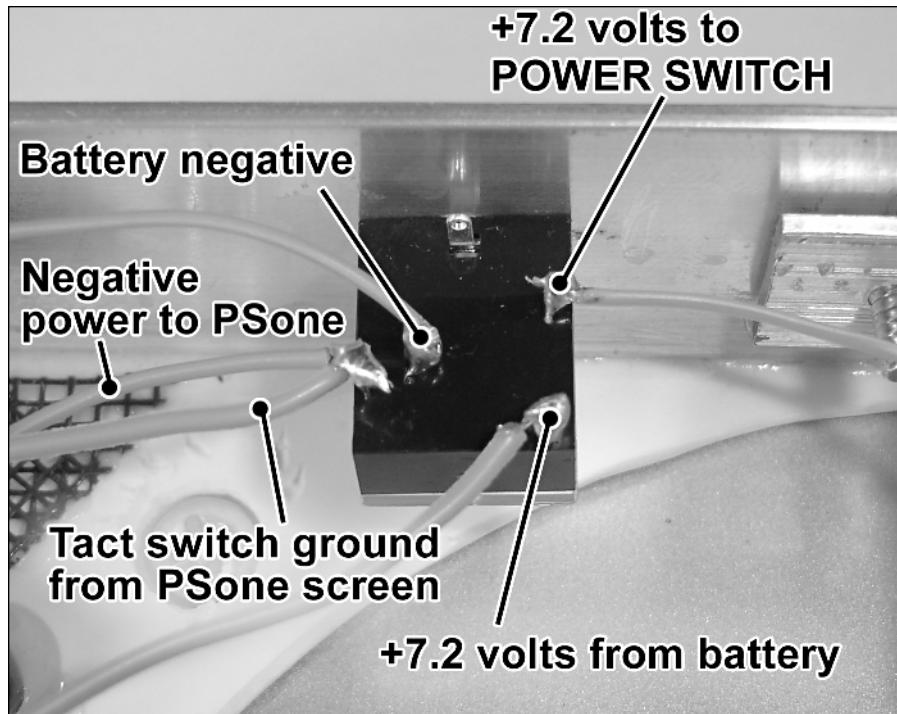

FIGURE 13-27: Connections to the 1/8" phono jack.
2. Connect wires to this plug, as shown in Figure 13-27.